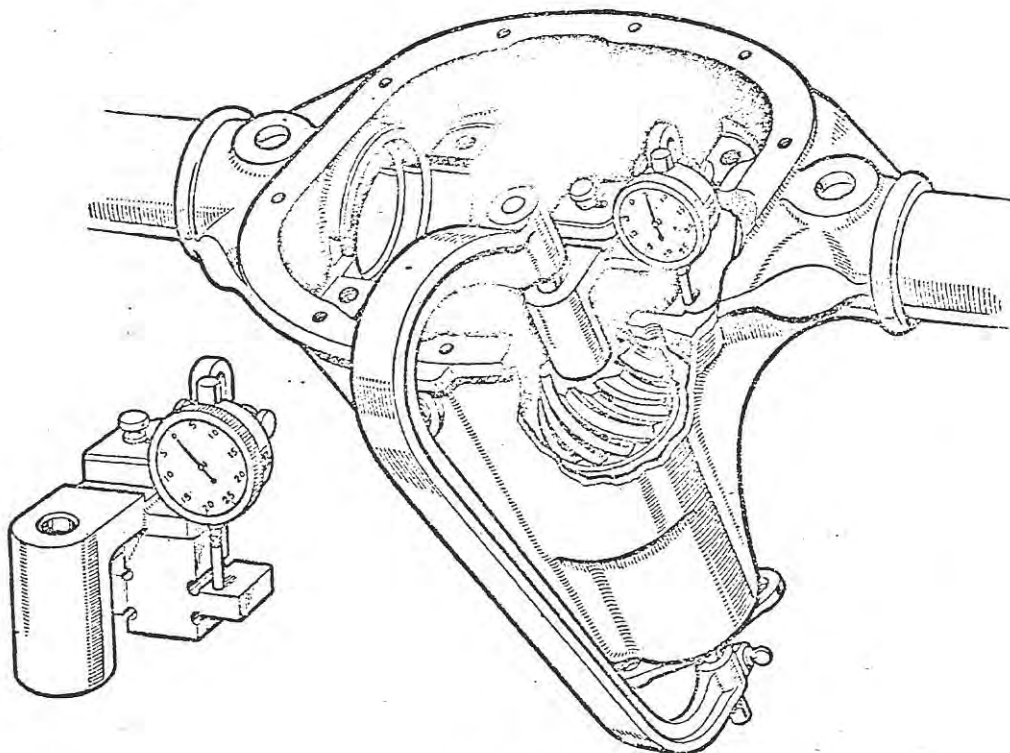
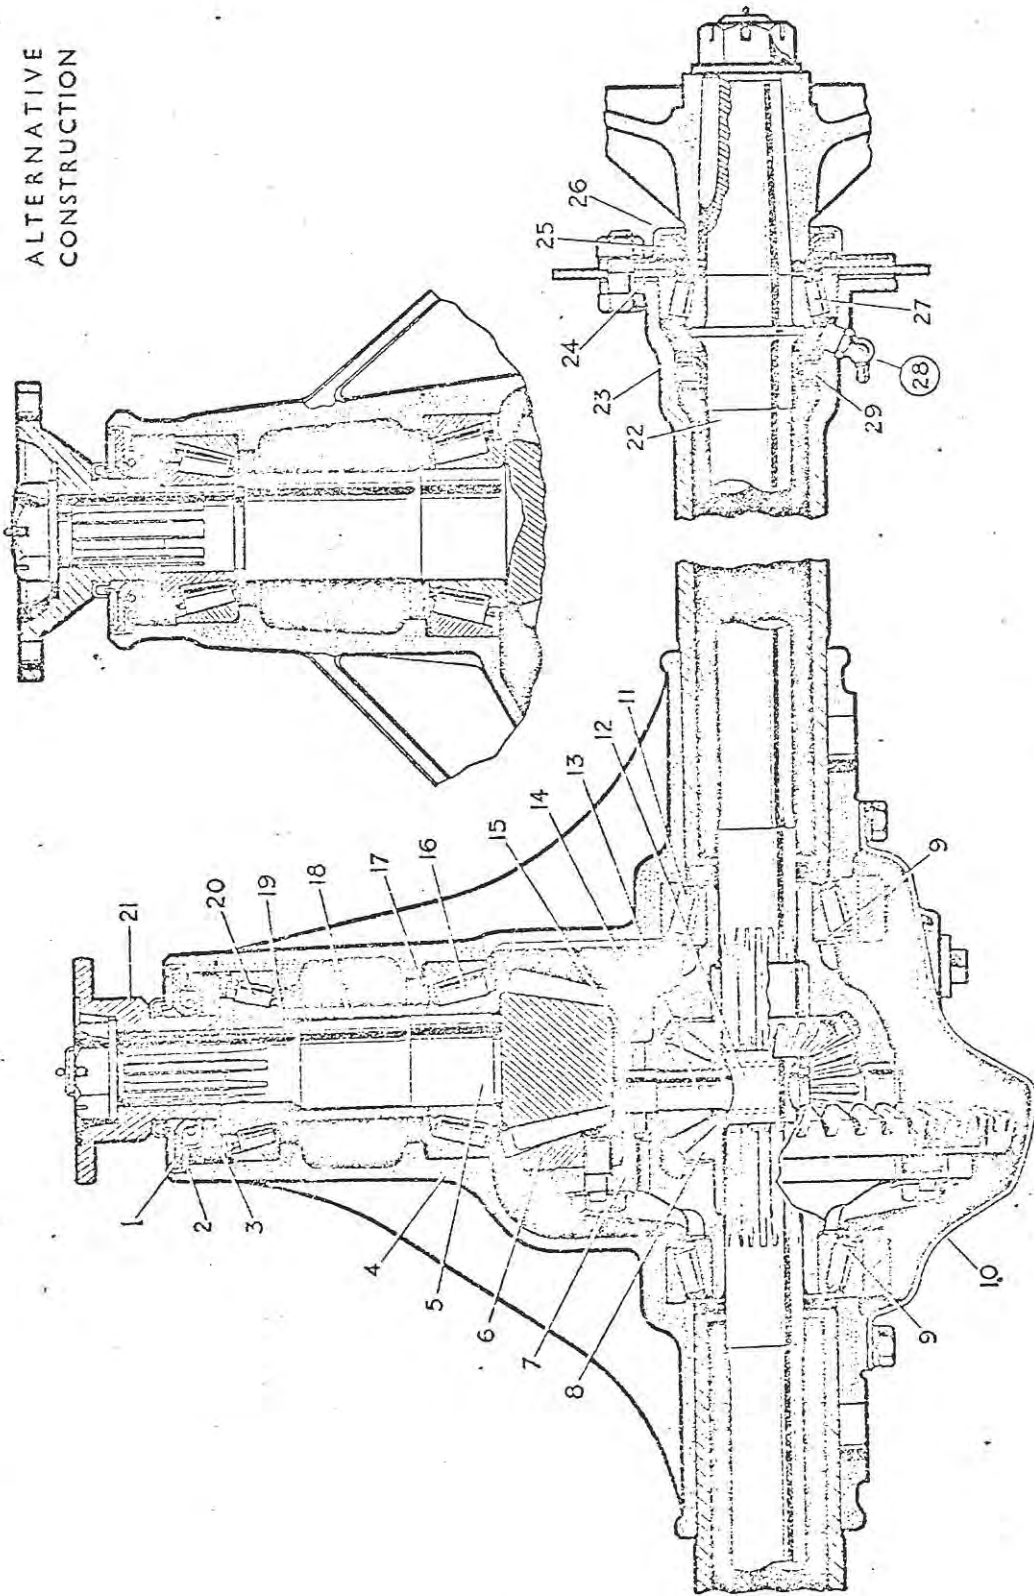

FIGURE 9
FIGURE 1
- (1) Place the pinion, with the inner bearing cone assembled, in the gear carrier.
- (2) Turn the carrier over and support the pinion with a suitable block of wood for convenience before attempting further assembly.
- (3) Install the pinion bearing spacer if fitted on the unit under repair (see Figure 1 for alternative construction).
- (4) Install the original outer bearing shims on the pinion shank (or if fitting the abutment washer referred to in the note at the end of the section on "Removing Pinion", the original shims, less .048") so that they seat on the spacer or a shoulder on the pinion shank, according to the construction of the unit.
- (5) Fit pinion outer bearing cone, companion flange, washer and nut only, omitting the oil slinger and oil seal assembly, and tighten the nut.
- (6) Check the pinion cone setting distance by means of the gauge Tool No. SL.3P (SE.107), see Figure 9. The procedure for using the gauge SE.107 is:—